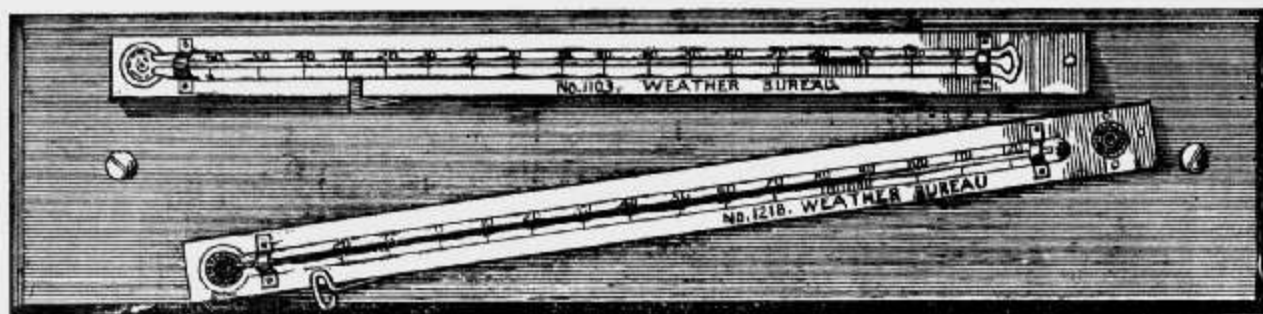

Fig. 19.
- Maximum Mercurial Thermometer (the *lower* instrument in the above cut), Fig. 19, Weather Bureau pattern, 12 inches long, stem-graduated and figured on glass, provided with heavy brass support and pin, price.....\$~~3.75~~ **3.75**
- Minimum Alcohol Thermometer (the *upper* instrument in the above cut), Fig. 19, Weather Bureau pattern, 12 inches long, stem-graduated and figured on glass, with brass support, price..... **1.75**